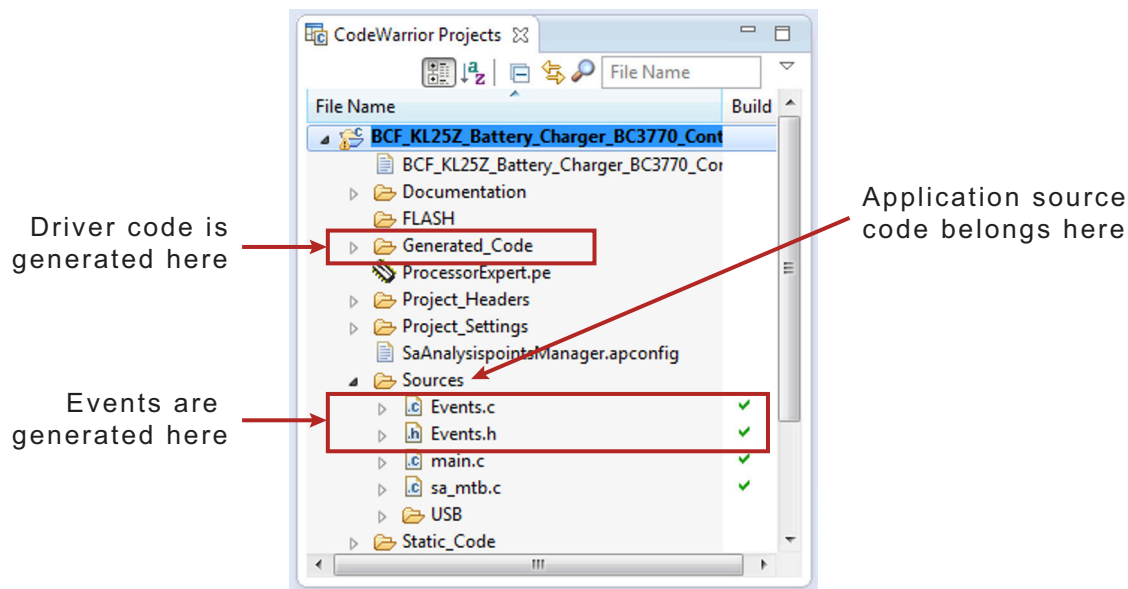

Figure 38. Source code locations
2. The driver code for the device is generated into the **Generated_Code** folder in the **Project** panel. The component only generates the driver code. It does not generate application code. Figure 38 shows the locations of the generated driver source code, Events source code, and the appropriate location for user application code.